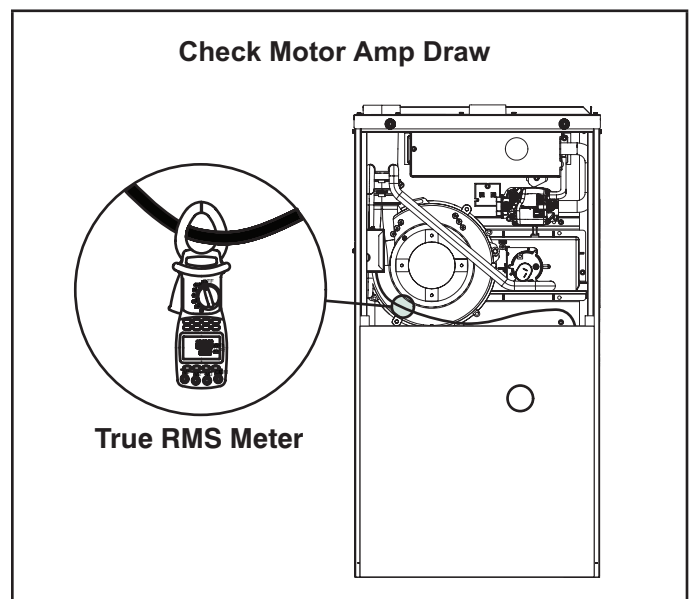

FIGURE 61
- 3 - Check amp-draw using a true RMS meter on the blower motor with blower access panel in place. See FIGURE 61.